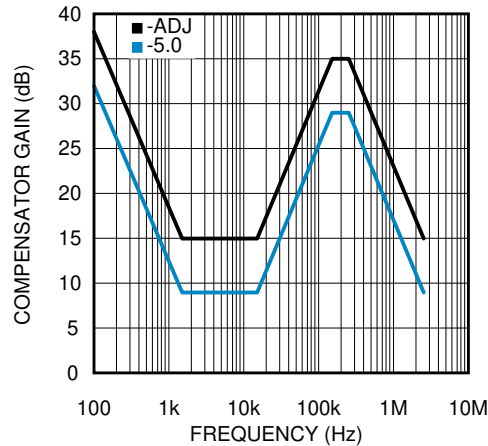

图 7-2. Compensator Gain
The complete transfer function for the regulator loop is found by combining the compensation and power stage transfer functions. The LM22678 has internal type III loop compensation, as detailed in 图 7-2. This is the approximate "straight line" function from the FB pin to the input of the PWM modulator. The power stage transfer function consists of a dc gain and a second order pole created by the inductor and output capacitor or capacitors. Due to the input voltage feedforward employed in the LM22678, the power stage dc gain is fixed at 20 dB. The second order pole is characterized by its resonant frequency and its quality factor (Q). For a first pass design, the product of inductance and output capacitance should conform to 方程式 3.